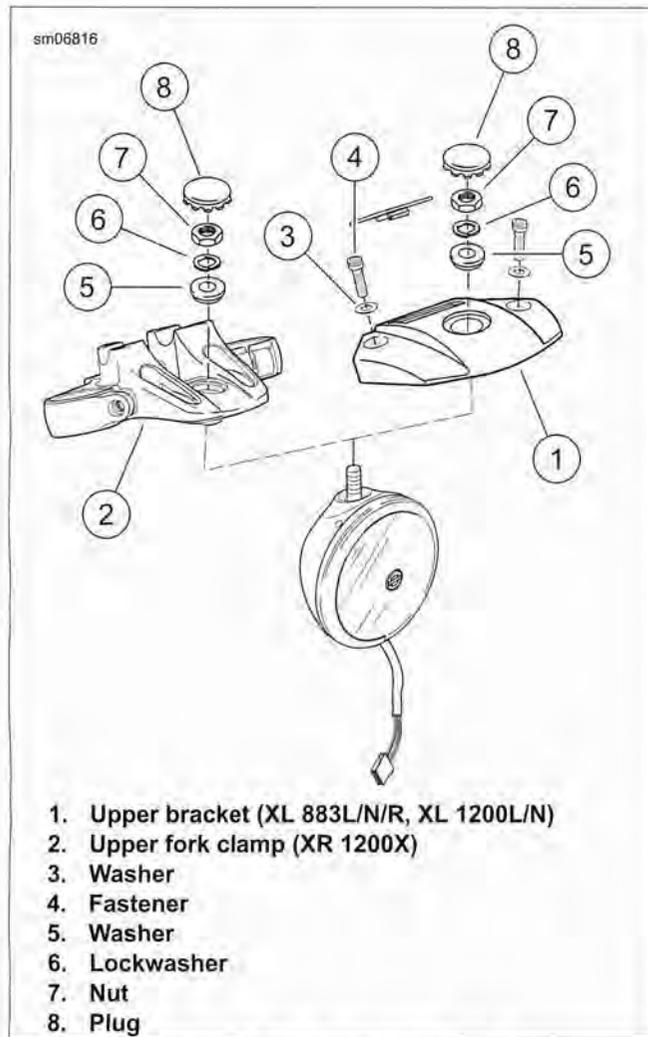

Figure 6-47. Headlamp Mount
- a. See Figure 6-47. Mount the upper bracket (1) to the upper fork clamp with a washer (3) and fastener. (4) Tighten to 120-192 **in-lbs** (14-22 Nm).
- b. **XR 1200X:** The headlamp assembly installs directly into the upper fork clamp (2).
3. Install the headlamp assembly with a washer (5), lock-washer (6) and nut (7) and hand tighten.
6. Install the plug (8).